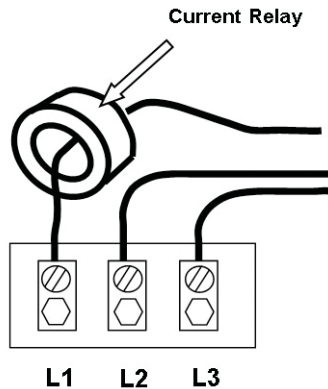

Figure 2.2 Current Relay Wiring
- 2D and 3D compressors have a current relay in the terminal box (refer to figure 2.1 above). The current relay is used to detect an open motor protector. Route one motor power lead through the relay as in figure 2.2. Note: 2D TFD and TFE compressors 6 HP or smaller should pass the power lead twice through the coil. The minimum amp draw that the relay can properly sense is 5.5 amps.